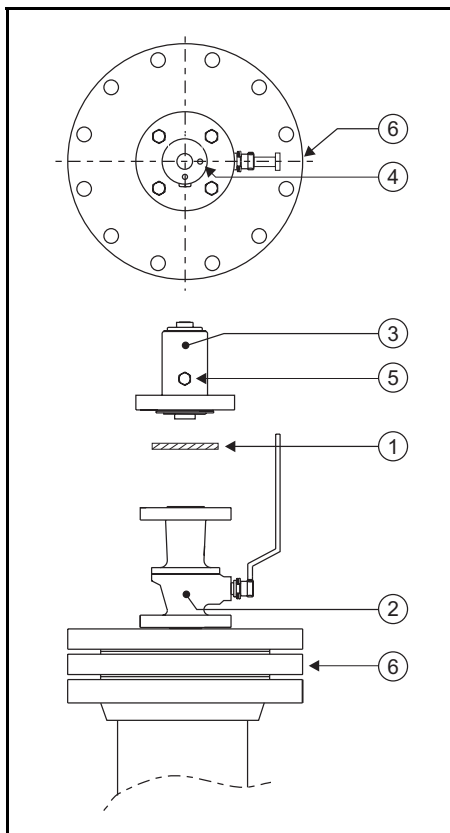

Figure 9.14 Position of tank separator
Refer to figure 9.14.
The correct position is as indicated in figure 9.14. Hole for locking pin (4), which is 90° away from vent plug (5), is in line with the marker on the intermediate flange (6).